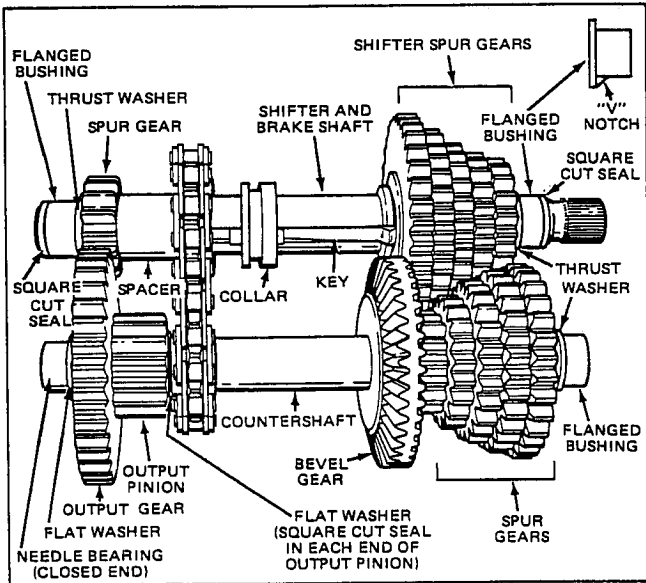
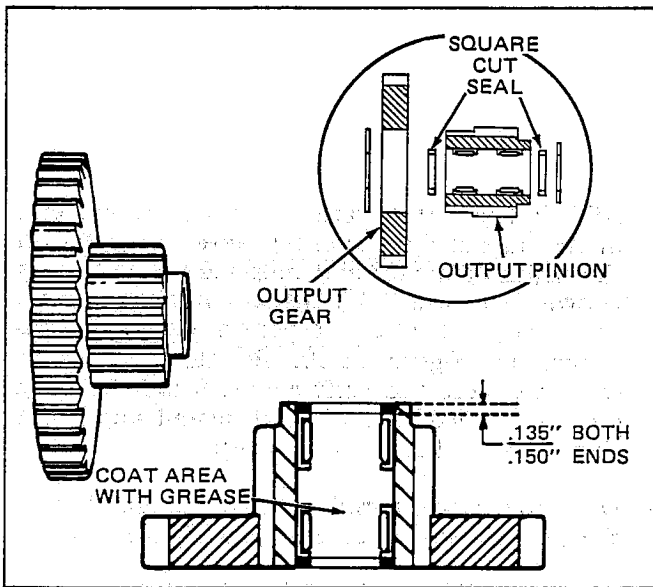

Figure 3-22
Figure 3-33
NOTE: Before disassembly, observe how "V" notches on the flanged bushings fit into recess "V" of case. Figure 3-22.
5. Remove the needle bearing (closed end) flat washers (2), output gear and output pinion, and 3 square cut seals from the countershaft. Figure 3-22 (2 seals in output pinion, - 1 in needle bearing cap). Seals in countershaft are larger than those on brake shaft ends. Always replace with new seals whenever removed. See Figure 3-33.